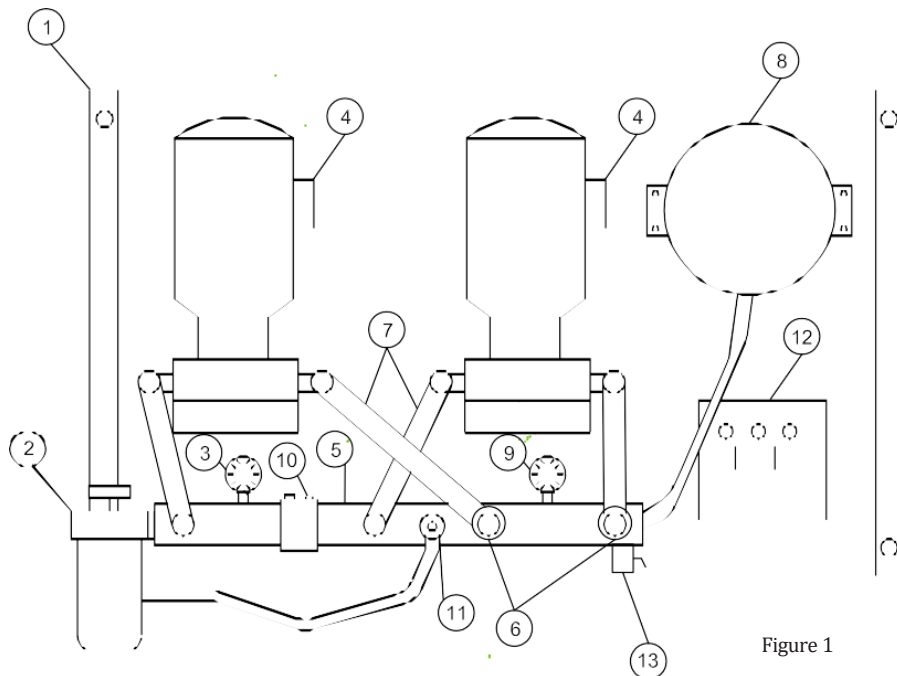

Figure 1
1. Connection of aspiration piping between the equipment (see Figure 1, Point 2) and the tank, employing copper piping (recommended) and compression connectors in order to guarantee good sealing.
1. Connection of impulsion piping between the pressure equipment, *see Figure 1, Pont 13* and the consumption point using copper piping and include the necessary elements for feed the one or two-stage burners, *see page 7*, standby generators (tanks), *see page 7* or modulating burners, *see page 7*.